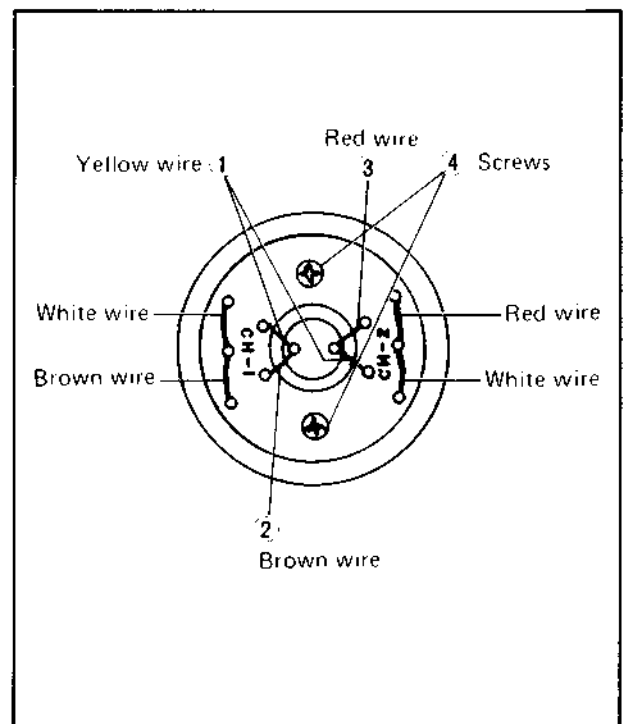

Fig. 4-27 Replacement of video head assembly
1. Unsolder yellow wires (1), then unsolder the brown (2) and red wires (3).
2. Remove the two screws (4), then pull-up the upper drum assembly.
3. Install the new head assembly and solder the wires as shown in Fig. 4-27.
4. Fasten two screws (4).